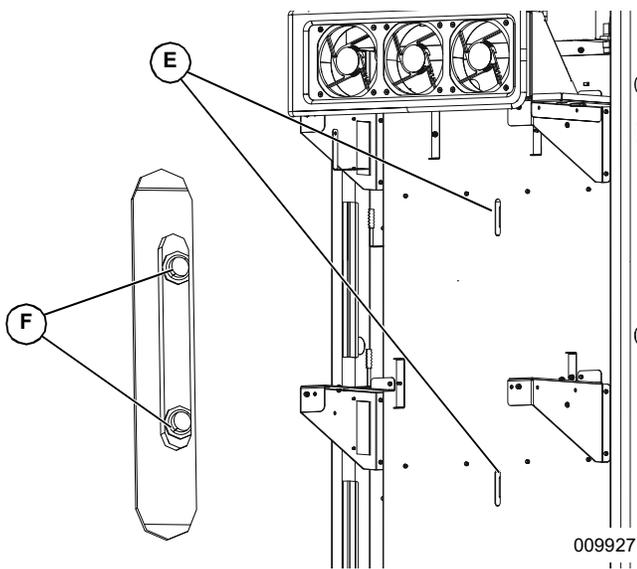

Figure 4-8. Mounting Bracket (2 of 2)
2. See **Figure 4-8**. Align body slots (E) with wall bracket holes (F).